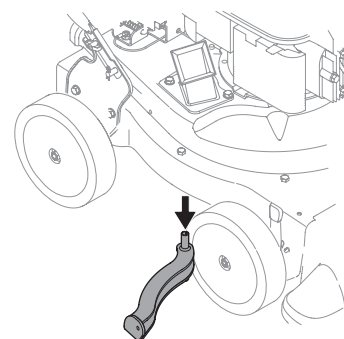

Figure 17
7. Remove and clean the screen by scraping or washing with water. See Figure 17.